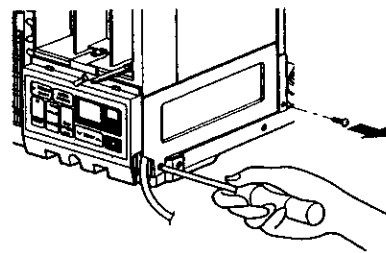

Figure 59
2. Pull the base pan forward so that you can remove the 2 screws which fasten the cover control at the right side. (See Figure 59)
3. Remove the 3 screws which fasten the control box. (See Figure 59, only for 79188)